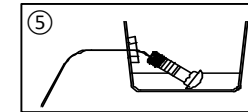

Figure 2
- 2. Remove passenger side (RH) dust panel**- Using a flathead screwdriver, remove (2) plastic rivets and using 10 mm socket remove (1) nut. Return to vehicle owner.
- 3. Install hitch- (a)** Install carriage bolts. Remove rubber plugs in frame access holes located on the underside of the frame forward from the mounting holes. Feed 7/16" bolts ① and spacers ② through access holes using pull wires ⑤ through mounting holes located on the outside face of the frame on both sides, see **Figure 2**, and leave pull wire attached. **(b)** Raise hitch into position. Slide wires and bolts through mounting holes of the hitch and remove pull wire, loosely secure conical washer ③ and 7/16" nuts ④, see **Figure 1**